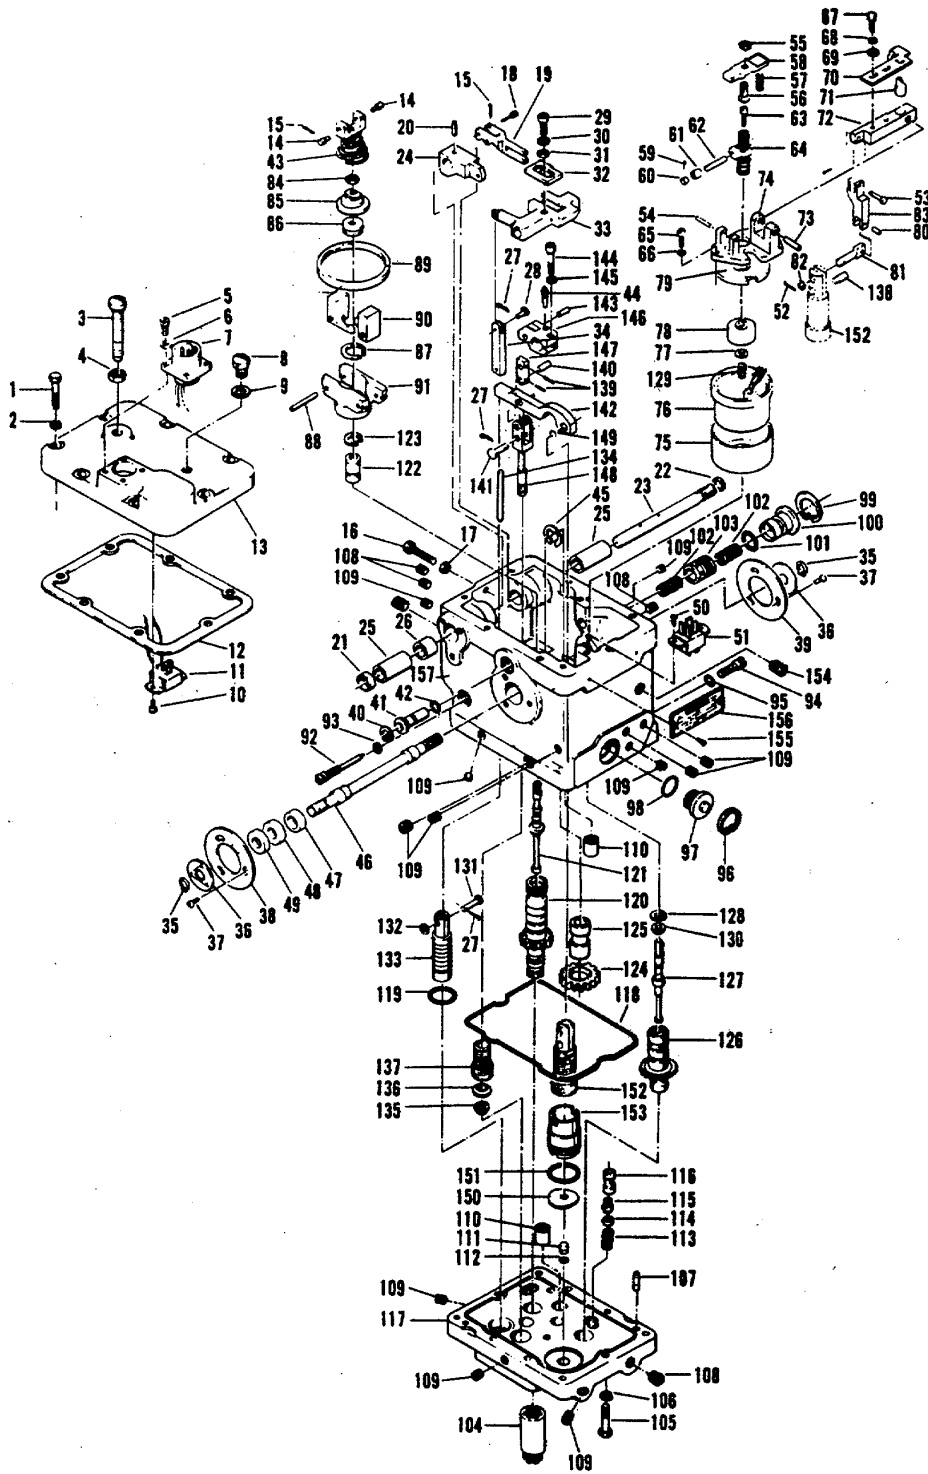

Figure 12-3. Governor Actuator, Exploded View
- (2) Drive the unit in the normal clockwise direction of rotation.
- (3) Remove cover (13, figure 12-3) and use adapter plate
- (4) Turn spring seat (56, figure 12-3) until the pilot valve plunger for the actuator gently bottoms, then back off two turns. Screw spring seat screw (56) until actuator's power piston (152, figure 12-3) is all the way up, eliminating interference from the actuator.
- (5) Check pointer alignment with maximum position on dial plate by rotating terminal shaft in the increase fuel direction until the power piston is all the way up.
- (6) Surge the unit by setting speed droop to zero and opening needle valve (92). Zero speed droop is set when the pin on bracket (32) is on a centerline
LEGEND FOR FIGURE 12-3
b. Figure 12-3 shows the speed adjustment shaft (23), and the high (16) and low (3) speed stop screws. Use the speed adjusting shaft to change speeds between these preset ranges. Speed may be changed remotely with the speed adjusting shaft and the proper connections.
- a. Disassembly. When repairing, do not disassemble the unit or its various subassemblies any further than necessary. Refer to figure 12-3.
- (1) Remove screw (1), lockwasher (2), cover (13), and gasket (12).
- (2) Remove pins (14) from speeder spring assembly (43), pin (18) from floating lever (19) and take out floating lever.
- (3) Remove pin (20) and tapered plug (21). Do not damage shaft bushing (25), or bore.
- (4) Drive speed adjusting shaft (23) toward opposite side